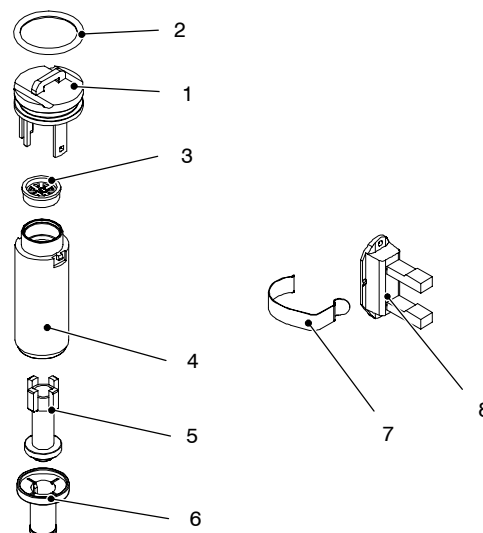

Fig. 14.3
When the flow rate through the d.h.w. circuit reaches about 2,5 litres/min', the float 5 (Fig. 14.3) is dragged upwards and the magnetic in it, getting closer to the sensor 8 closes the electric contact.
### 14.2 Description and location of parts (Fig. 14.3)
- 4 To remove the filter from the flow switch group separate the filter 6 from the body 4 (Fig. 14.3) by levering it.
- 3 Insert the flow limiter 3 as shown in Fig. 14.3